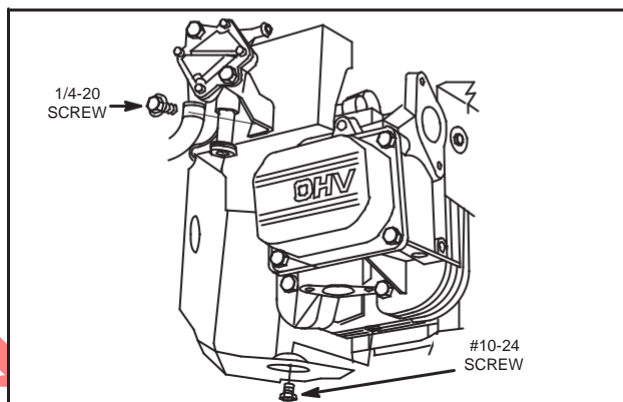

Fig. 27 – Install Cylinder Shield
1. Install No. 1 cylinder shield and fuel pump assembly, Fig. 27.